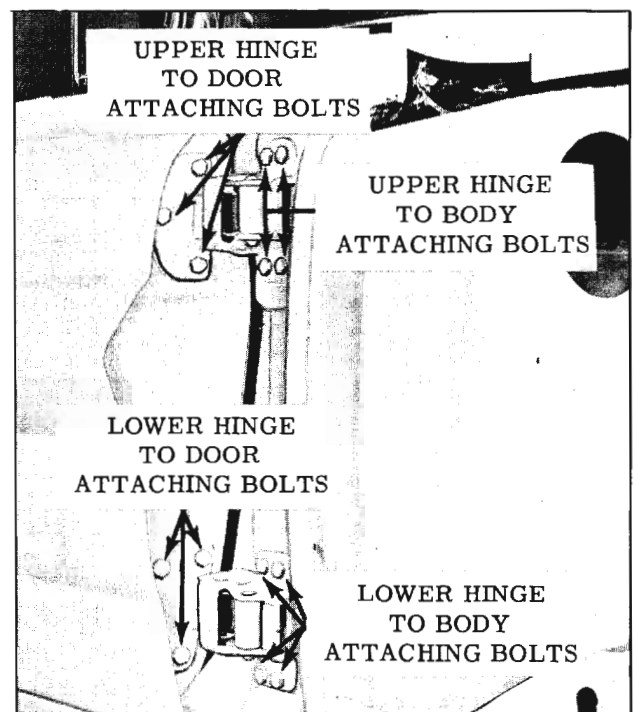

Fig. 16-27 Front Door Hinge Attachment
5. With door properly supported, remove bolts securing upper and lower hinges to front body hinge pillar or door hinge pillar. (Fig. 16-27) With aid of a helper, remove door assembly from body.
1. For in and out or up and down adjustments, loosen hinge to door pillar attaching bolts. (Fig. 16-27) Adjust door as required and tighten bolts.
2. To adjust door fore or aft, loosen hinge to body pillar attaching bolts. (Fig. 16-27) Adjust door as required and tighten bolts.